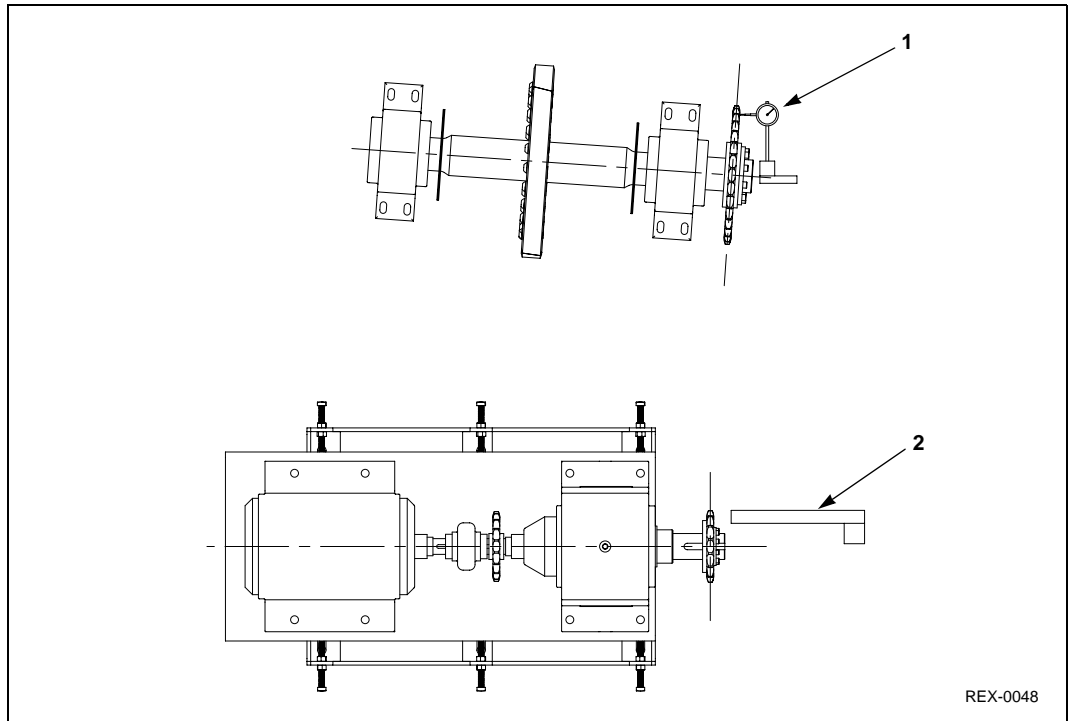

Figure 4-49:
2. Check that each sprocket or sheave is axially aligned (perpendicular or 90°) to its respective shaft. Axial alignment of the sprocket or sheave can be checked in a number of ways: rotating shaft and gauging OD of sprockets with fixed point on straight edge or a dial indicator, or by rotating a square along the shaft's axis and checking the sprocket or sheave sits perpendicular to the square. See Figure 4-49. Should a sprocket or sheave be out of axial alignment with the shaft correct the alignment by: